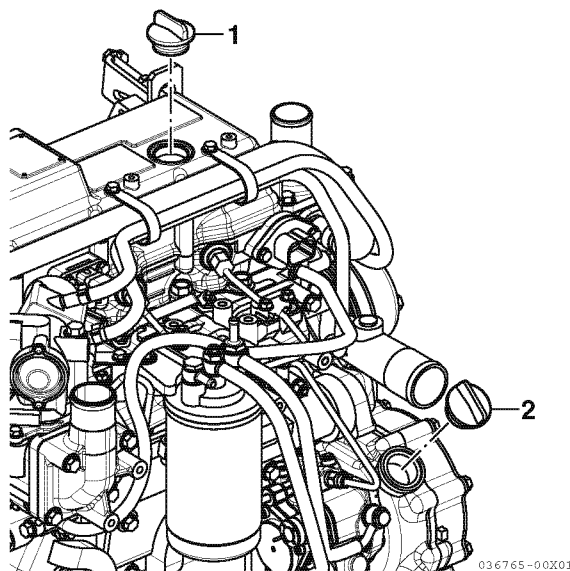

Figure 13
4. Remove one of the oil filler caps (1 or 2, **Figure 13**) to vent the engine crankcase and allow the engine lubricating oil to drain more easily.